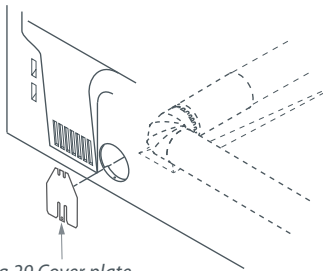

Fig.29 Cover plate
- Cover the original duct opening at the back with a plate (kit WE1M454, available from Fisher & Paykel (refer to page 84). Refer to Figure 29 (page 37).